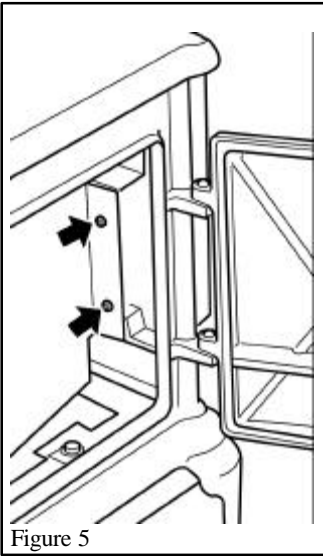

Figure 5
2. Remove the two screws from the ceramic support bracket. The side of the support bracket can now be removed. (See figure 5)